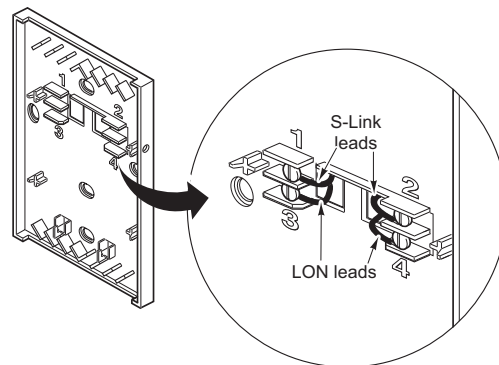

Figure-7 S-Link and LON Connections.
Communications wiring includes a connection between the controller and an sLON-WTS Sensor via the S-Link and an optional connection between the sensor and the LonWorks network (LON). Figure-7 shows S-Link and LON wiring terminations.
2. Connect wires to screw terminals 1 and 2 (Figure-7). The S-Link terminals are polarity insensitive.
2. Connect wires to screw terminals 3 and 4 (Figure-7). The LON terminals are polarity insensitive.